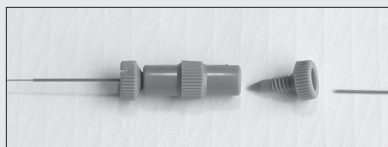

Figure 5.7 Union, compression fitting, and MicroTight® sleeve cut to 14 mm
4. Carefully trim a new green MicroTight sleeve to a length of approximately 14 mm, as shown in Figure 5.7. The shorter sleeve will allow the coating on the PicoTip® to contact the conductive elastomer inside the CTM.